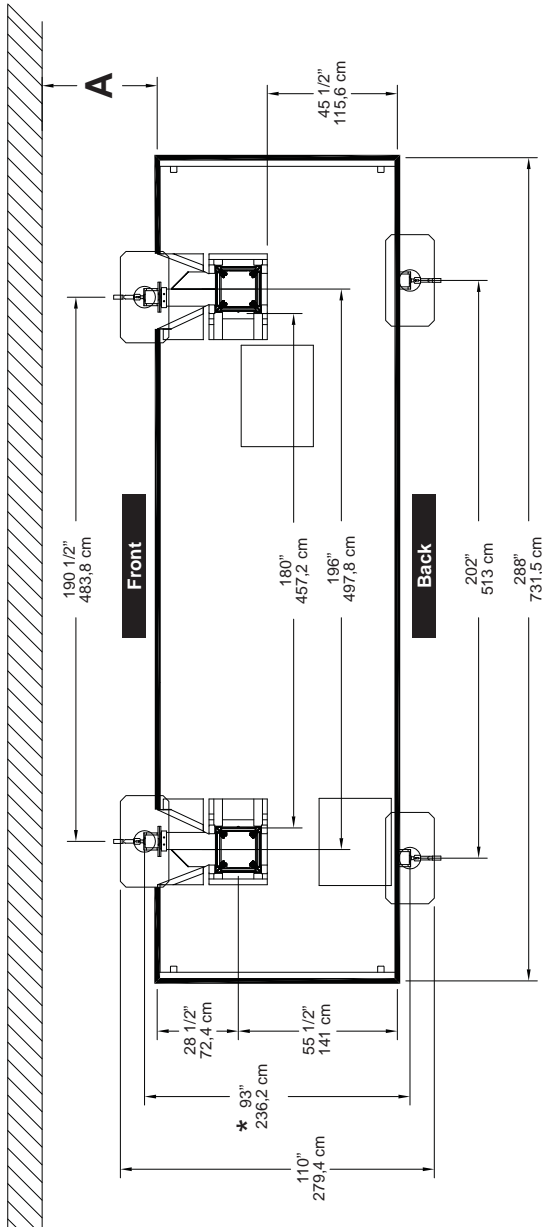
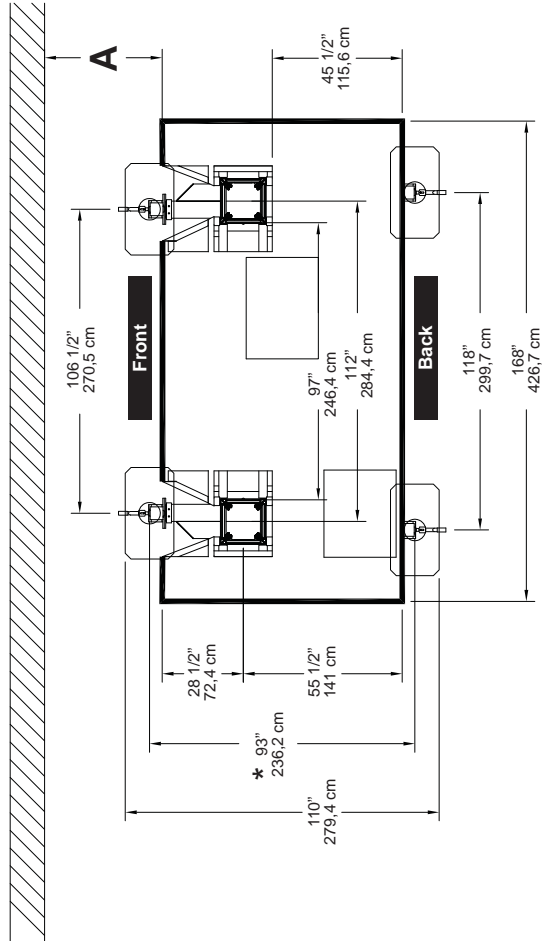

Fig. 1.16
Fig. 1.17
- 7- Distance from the finished wall (see "A" in fig. 1.16, p. 14 and fig. 1.17, p. 15) should be the number of planks multiplied by the width of one plank, while allowing 6 to 8" (15 to 20 cm) of play. Add an additional 2" (5 cm) if using a toe board. Refer to applicable local regulations to determine play or the maximum allowable distance between the motorized unit, including its accessories, and the face of the work.